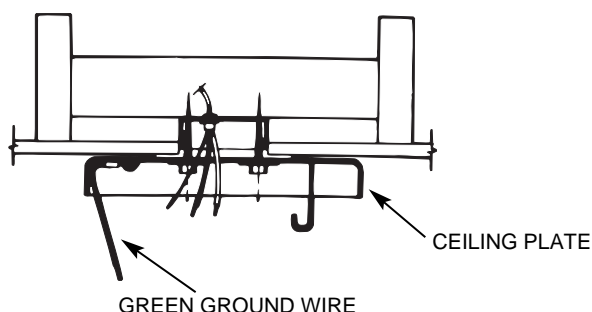

FIGURE 6
A. Connect electrical supply leads to the leads from motor, using approved connectors. Connect black electrical supply lead to the black motor lead and the black with white stripe motor lead (see Note). Connect the white electrical supply lead to the white motor lead. Connect the ground wire to the green leads from the motor and ceiling plate. See Figure 6.